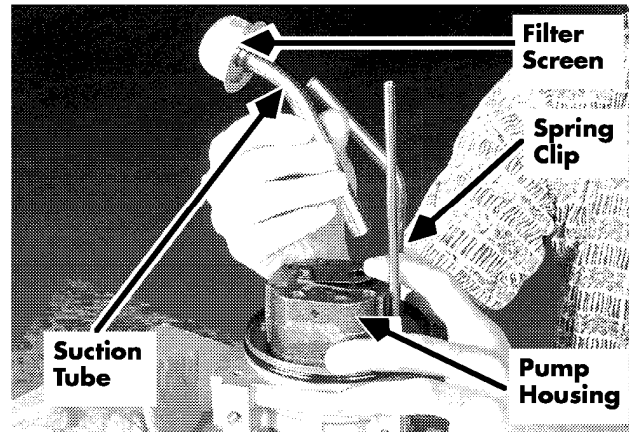

Figure 6-152: Pump Housing Components
2. With pump assembly inverted, push the spring clip toward the pump housing. See Figure 6-152.
3. Grasp the suction tube with the filter screen and pull out of pump housing. See Figure 6-152.
3. Push the spring clip toward the pump housing and insert the suction tube through the spring clip and into the pump housing until it stops. See Figure 6-152.